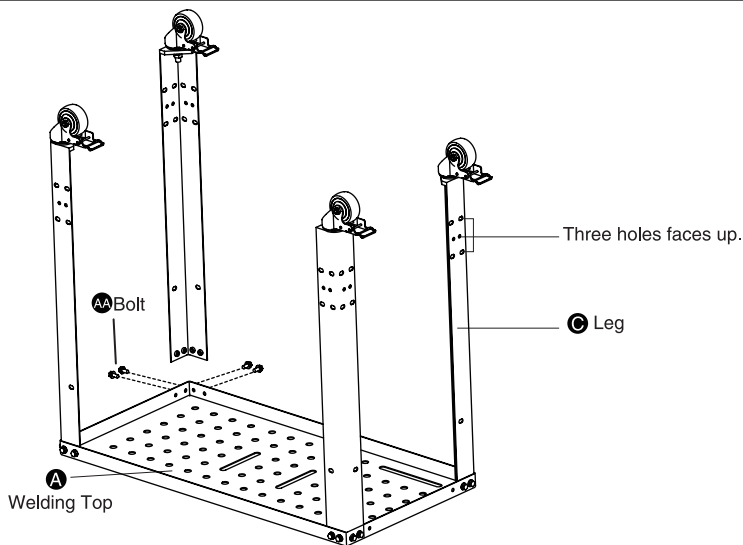

Fig. 2
- Lay the welding top (A) on its back.
- Attach the four legs (C) with casters to the inside corners of the welding top (A) with sixteen M8x15mm hexagonal head bolts (AA), and finger tighten to desired tightness (Fig. 2).